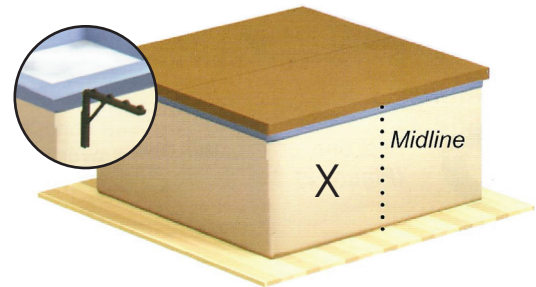

FIGURE 1
1. Determine the mid-line of the side of the spa you are installing the ROLLERS. Position each ROLLER halfway between the mid-line and the end of the spa (see X on Figure 1). The top edge of ROLLER should be flush with the top of the spa lip not the top edge of the cover (see Inset).